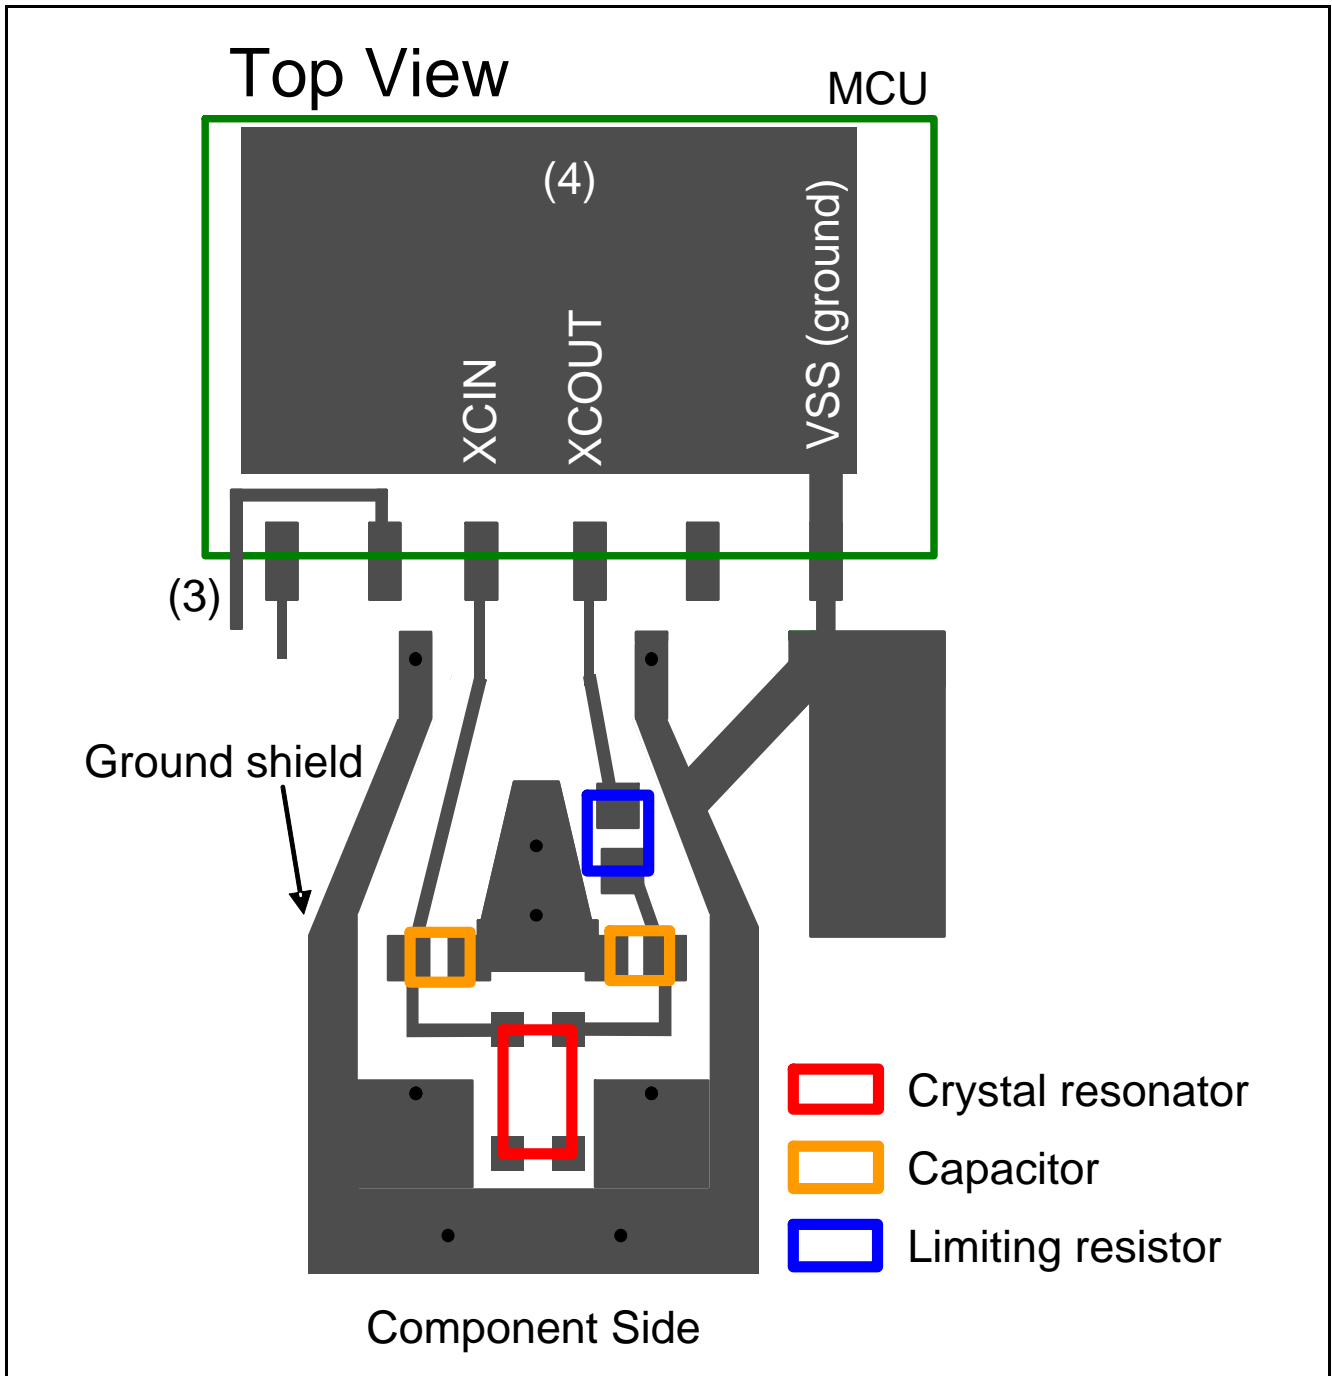

Figure 1.6 Trace Example for Other Points
(1) to (4) below describe other points, and Figure 1.6 shows a trace example.